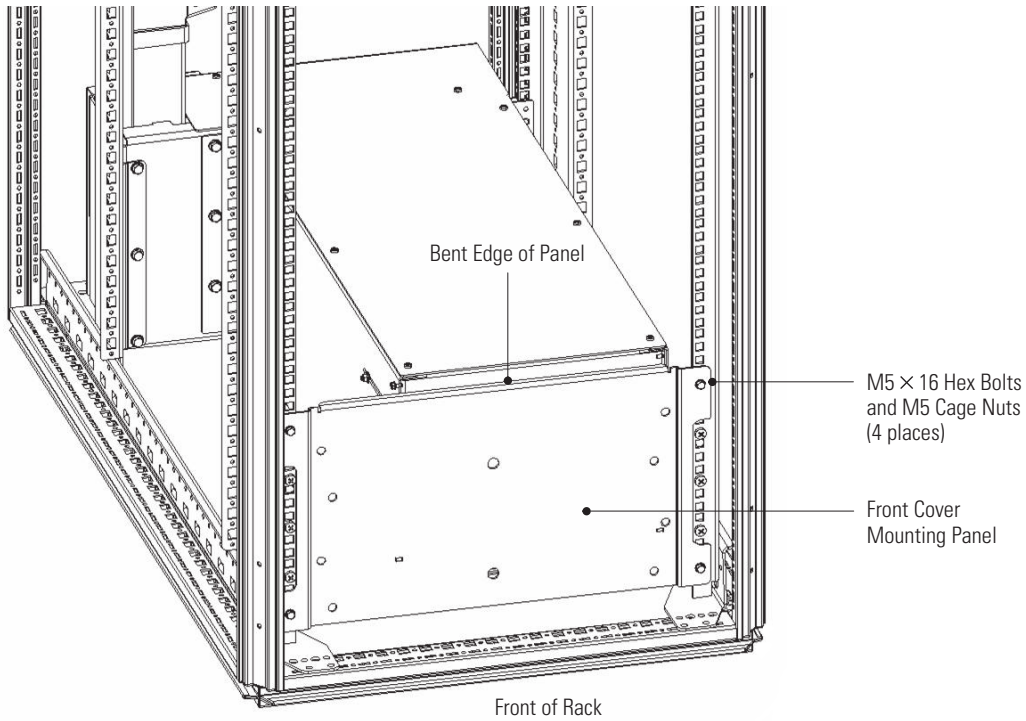

Figure 10. Front Cover Mounting Panel Installation
23. Using four M5 x 16 hex bolts and four M5 cage nuts, secure the front cover mounting panel to the front of the rack. Ensure that the bent edge of the panel is at the top. See Figure 10.